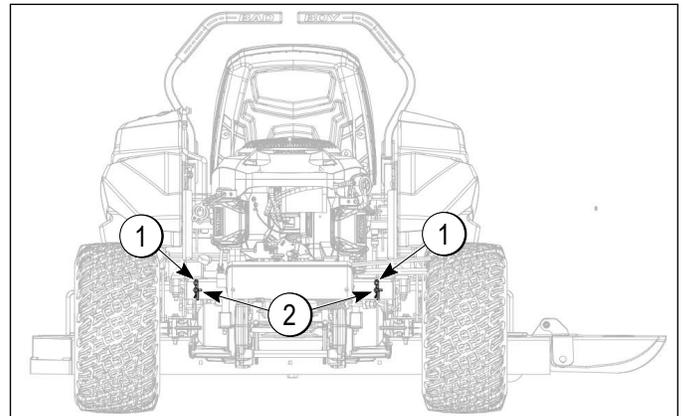

Figure 6-1
The transaxle bypass rods (1) are located at the rear of the machine as shown in Figure 6-1. The transaxle bypass rods serve as a neutral for moving the machine while the engine is not running.
2. Pull the rods out and lock them into place using the cotter pins (2), to activate the bypass.